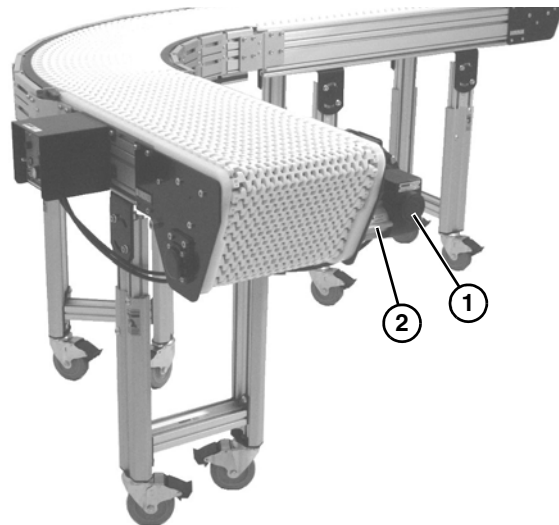

Figure 20
1. Attach the motor (Figure 20, item 1) to the gear reducer (Figure 20, item 2).